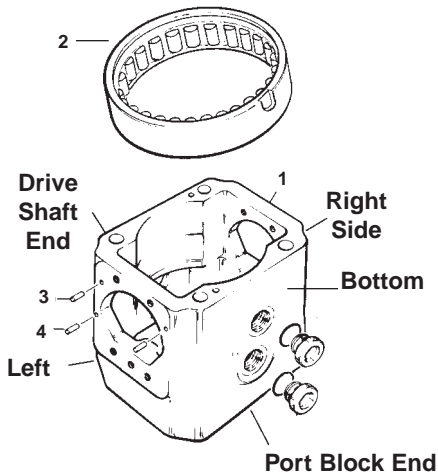

Figure 5
See figure 5. Position housing (1) on a clean flat surface with the large open end up.
**PARTS LIST FOR FIGURE 5**